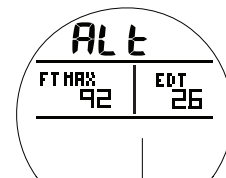

Fig. 46 - NO DECO ALT 2
No Deco Alt 2, information includes (Fig. 46) -
- #3 >> is similar to No Deco ALT 2 (Fig. 46).